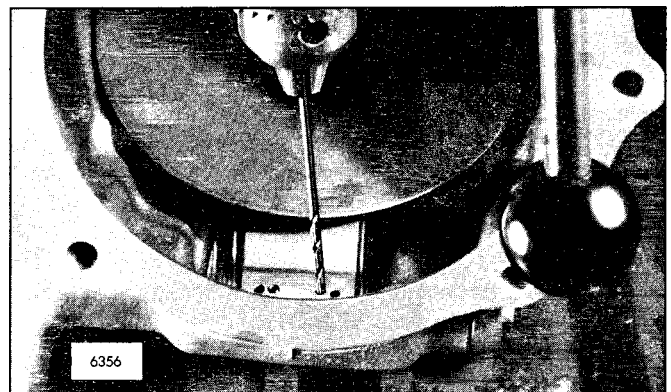

Fig. 5 - Drilling Valve-to-Shaft Holes
8. Place the housing on the drill press. With the valve held in the wide open *run* position, align the 1/8" drill bit with the marks center punched on the valve in Step 6. Then, drill through the valve and shaft (Fig. 5). Install the retaining pins to hold the valve to the shaft.